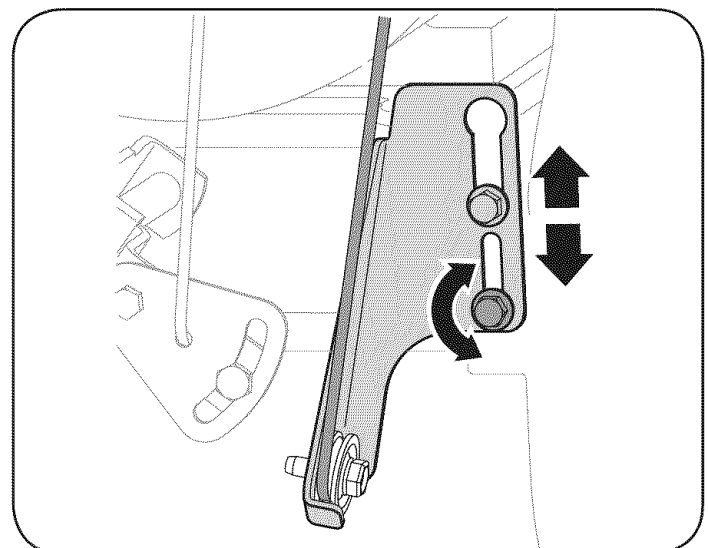

Figure 19
5. Loosen the lower hex bolt on the drive cable bracket. See Figure 19.